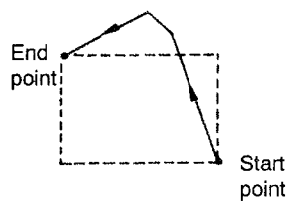

Fig. 4.65 Outside the Rectangle Defined by the Start and End Points
(4) Supplements to Multiple Chamfering/Rounding on Both Ends of Taper
- If the 1st chamfering specified by address C in the G111 block has the shape as shown in Figs. 4.65 and 4.66, such designation is not possible.